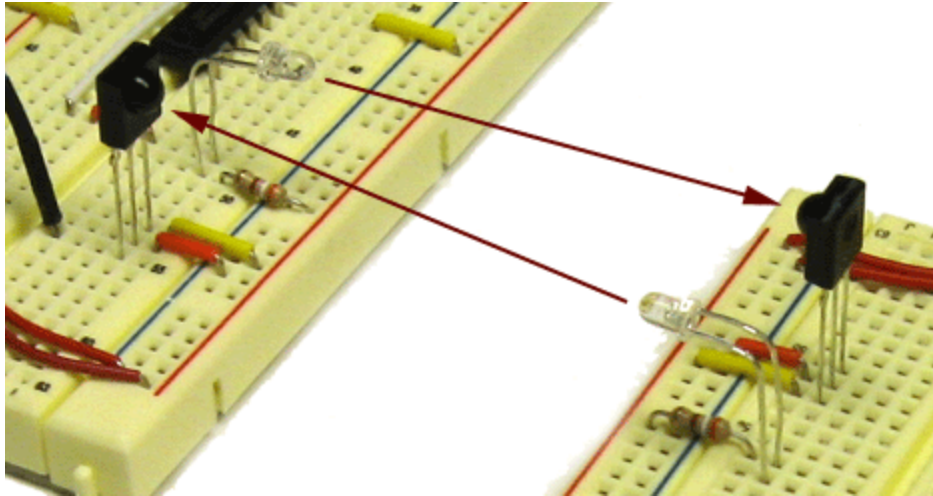

Figure 6. Two XBoards facing each other.
2. Position your board so that the infrared receiver and transmitter on one board are aligned with the corresponding components on the other board, as shown in Figure 6. **NOTE:** You may have to reposition one or both boards in order to program and reprogram them. Always position them as shown in Figure 6 when testing your code.
6. Compile and test your new code. Remember to position the two XBoards as shown in Figure 6. Use the reset button to reset the code on the RECEIVER board and make sure the RECEIVER is consistently receiving signals from the SENDER.
5. Compile and test your new code. Remember to orient the two boards as shown in Figure 6. Use the reset button to reset the code on the RECEIVER board and make sure the RECEIVER is consistently receiving start pulses from the SENDER.